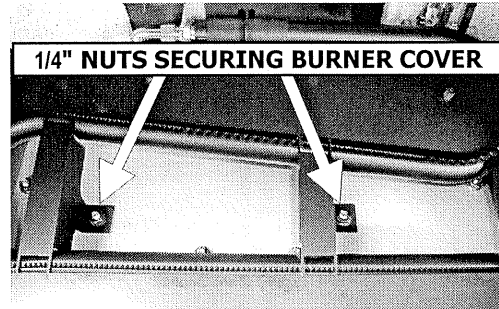

Figure G-3
- Secure the burner cover with the remaining (2) nuts. Figure G-3